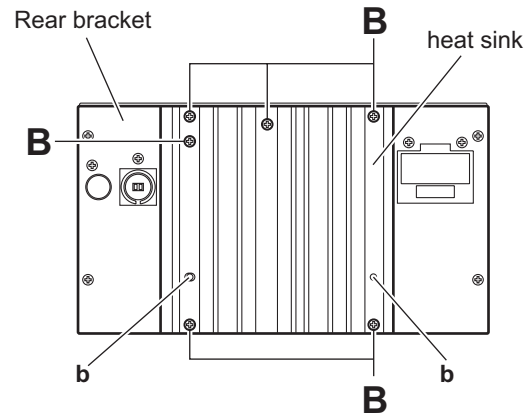

Fig.3
3.1.2 Removing the heat sink (See Figs.3 and 4)
- (1) From the back side of the main body, remove the six screws **B** attaching the heat sink. (See Fig.3.)
- (2) Remove the heat sink from the main body.
- When attaching the heat sink, set the projections **b** on the rear bracket in the holes of the heat sink. (See Fig.3.)
3.2.2 Removing the connector board (See Figs.3 to 5)